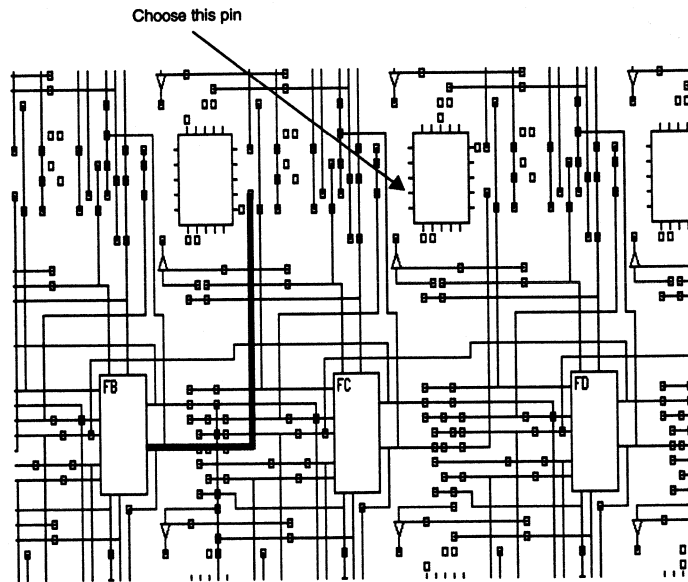

Figure 9-22 Manual Routing — Step 2
8. Click on the first pin, as illustrated in Figure 9-22.